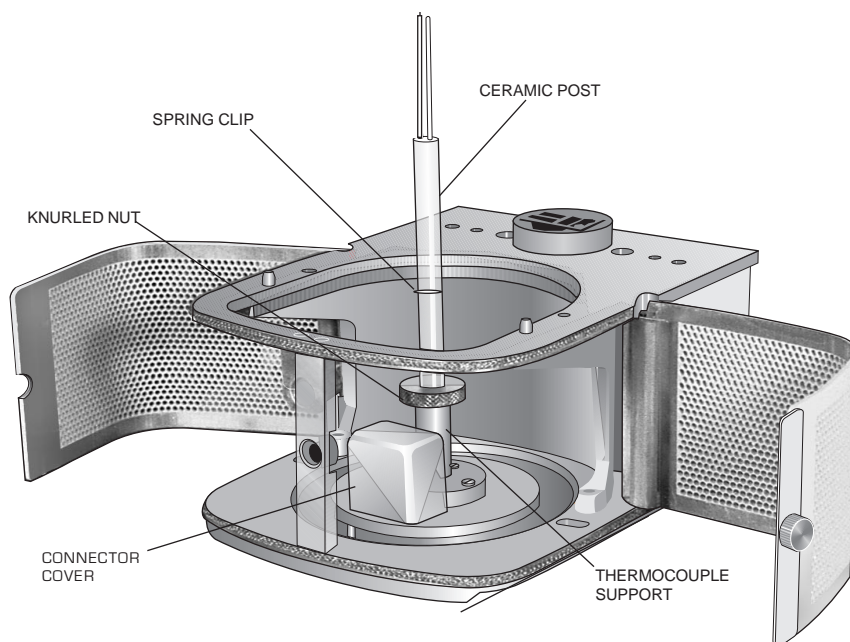
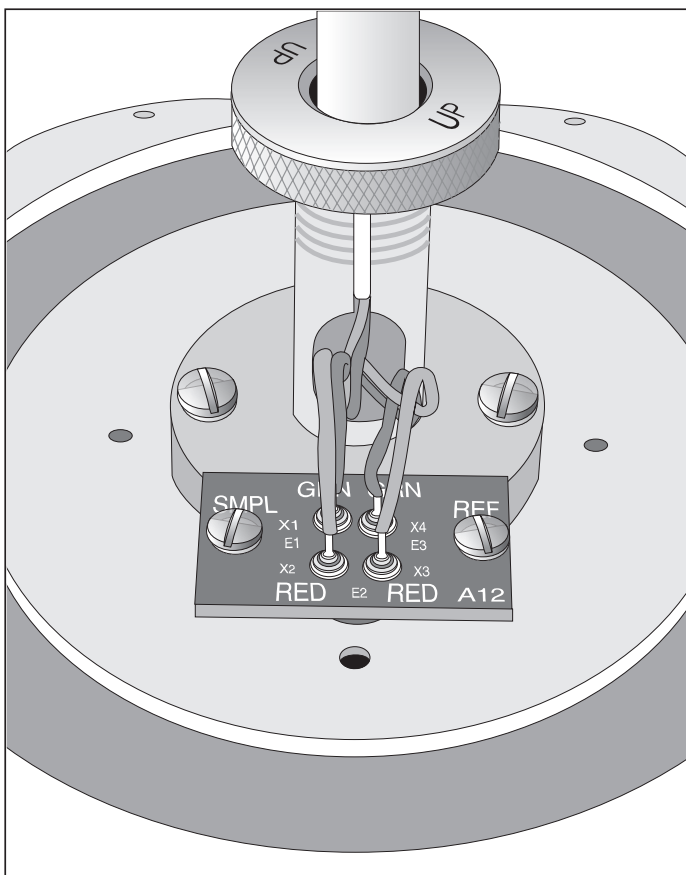

Figure DTA.6
Figure DTA.8
4. Remove the knurled nut from the thermocouple support, and insert the thermocouple wires through the hole in the knurled nut (see Figure DTA.6).
5. Carefully insert the thermocouple assembly (with the knurled nut), wire-lead end first, into the thermocouple support, slipping the wire leads through the slot in the support (see Figure DTA.6).
8. Pull off the connector cover by lifting one side, then the other (see Figure DTA.6). Using long-nosed pliers, plug the thermocouple wires into the PC board, as shown in Figure DTA.8. Plug the correct colored wires into their indicated position on the PC board, making sure the wires do not get crossed. The left and right thermocouple wires must plug into the left and right positions respectively.